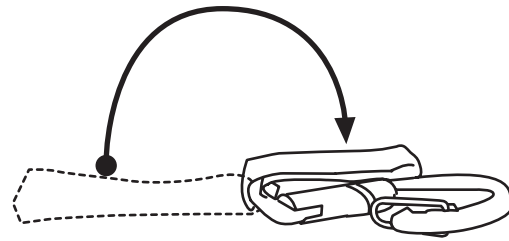
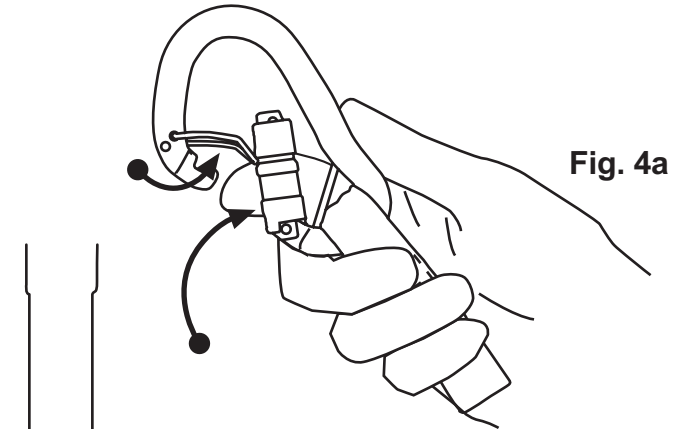
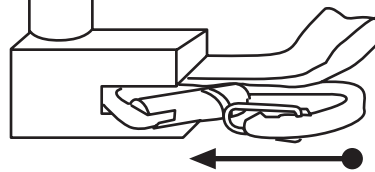

Fig. 3
Fig. 4a
Fig. 4b
4. Prepare the Remote Hook to be placed in the pole adapter. Fold the integral sling over the carabiner, ensure the sling is on top of the carabiner (Fig. 3). Open the gate by turning the barrel lock 1/4 turn and pushing the gate back (Fig. 4a). Lock the gate open by pulling the spring clip down and engage the clip end in the machined groove of the barrel lock (Fig. 4a). Secure the carabiner into the pole adapter with a forceful push (Fig. 4b).